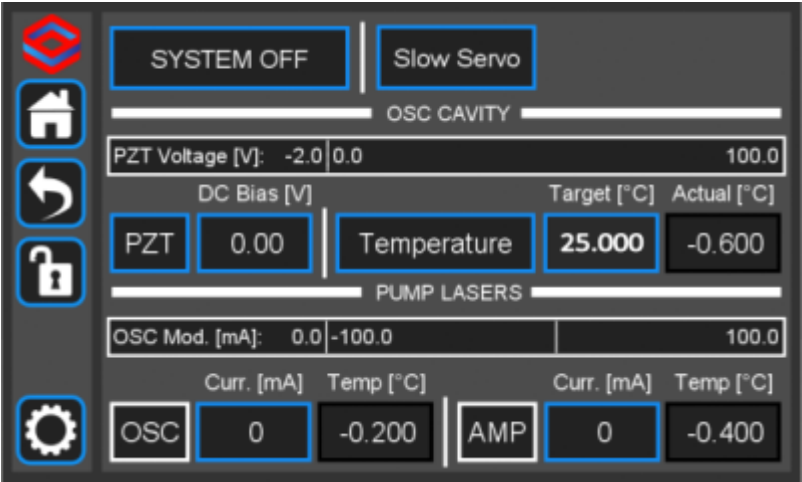
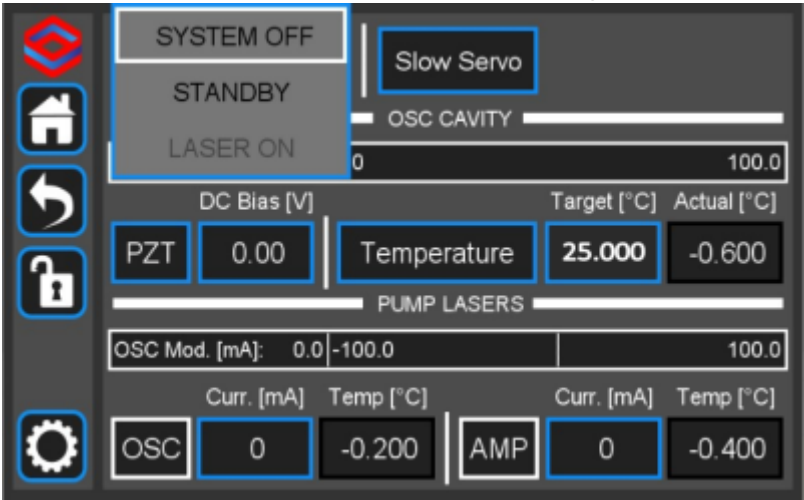

Fig. 3: The FFC-100 GUI in off state
Fig. 4: Select Standby laser state
1. Touch the “System Off” button at the top of the front panel screen (figure 3) to bring up a drop-down menu. Select “Standby” (figure 4) to turn on temperature control of the pump diodes and oscillator cavity. Temperatures will appear yellow as they approach stability, and turn green when stabilized within a predefined temperature range around the setpoint.